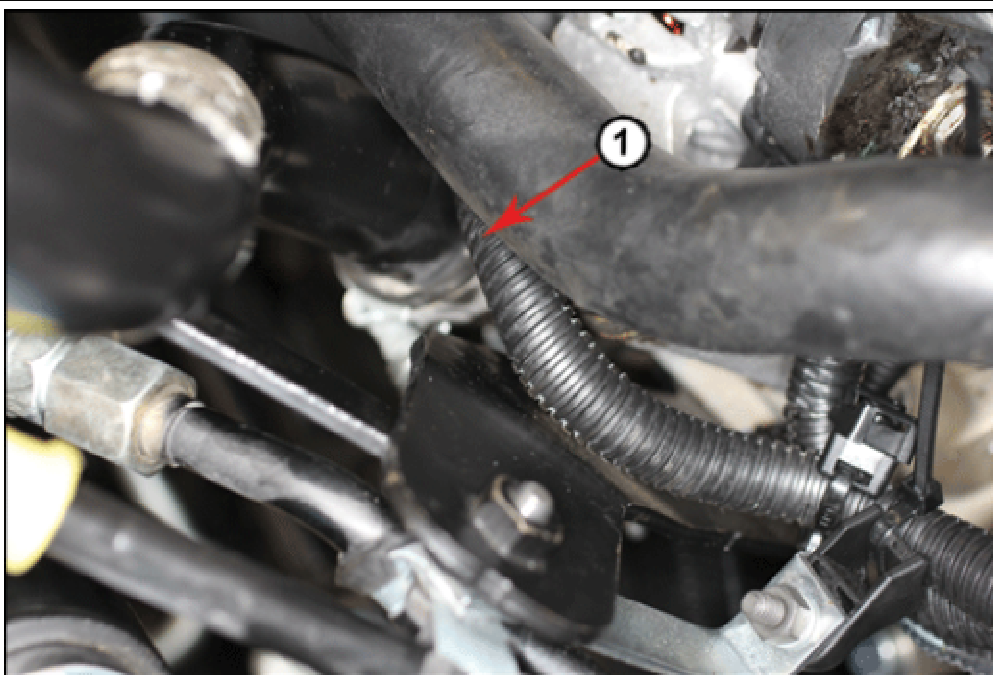
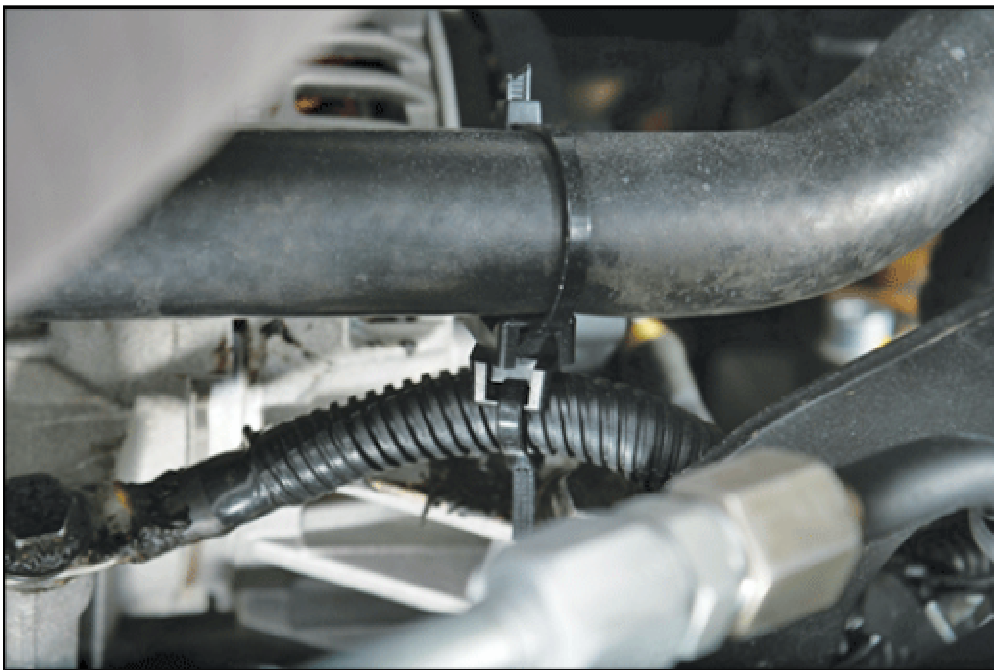

Figure 16
Figure 17
16. Add a dual-saddle swivel guide (3614752C1) between the power steering hose and the alternator ground harness by using two 9 in. cable straps (3551709C1) to the area shown in Figure 16 and Figure 17.